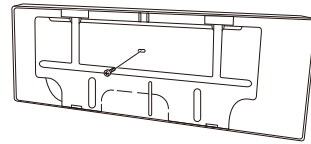

Fig. 3-71
- (1) Remove and discard the set screw on the rear panel. (Fig. 3-71)